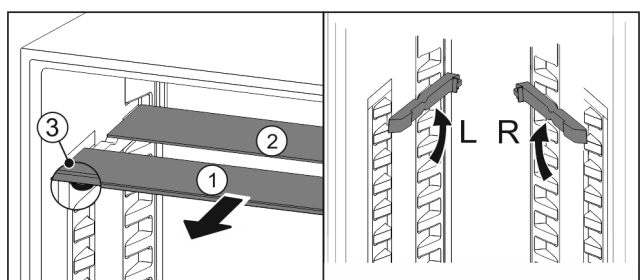

Fig. 79
- ▶ Pull the glass panels out *Fig. 79 (1)* from the front, one at a time.
- ▶ The glass panel *Fig. 79 (1)* and trim strip are at the front.
- ▶ The stops *Fig. 79 (3)* point down.